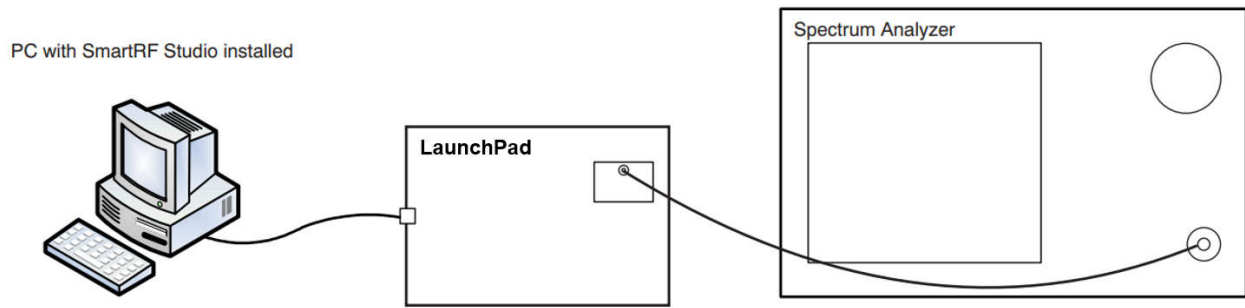
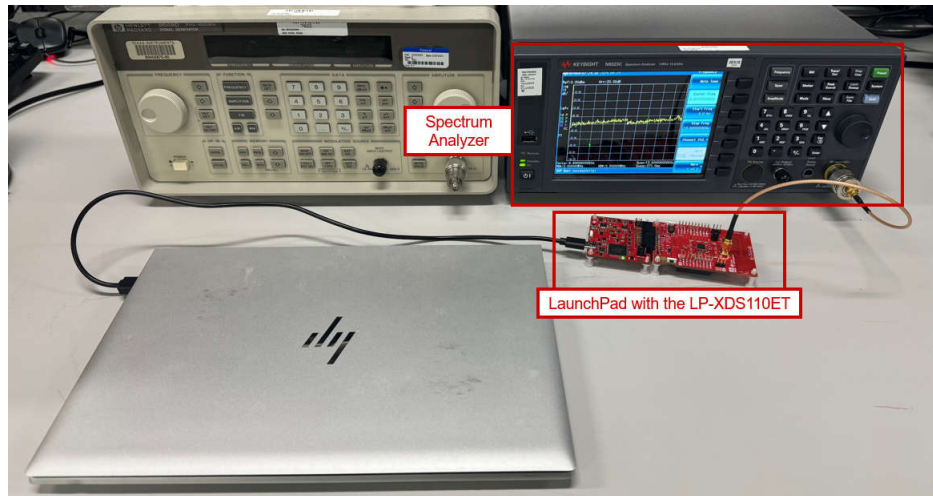

Figure 7-17. Spurious Emissions Test Setup Diagram
Figure 7-18. Spurious Emissions Test Bench Setup
Test Condition: Figure 7-17 shows the setup for spurious emissions test setup.
- Step 1: Connect the instruments as shown on Figure 7-17 and Figure 7-18.